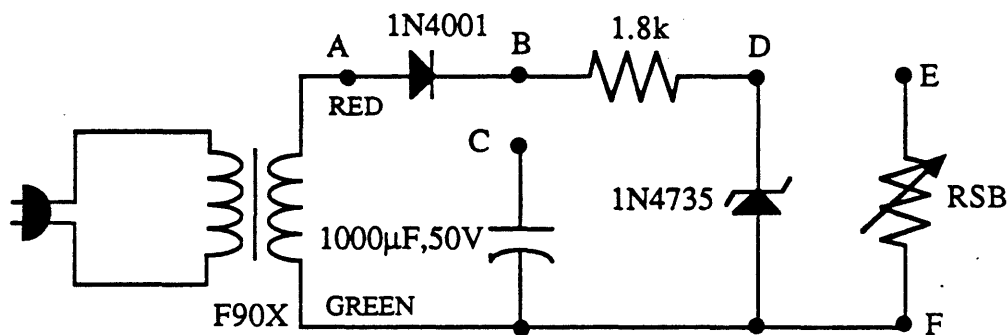

Figure 5.5 Zener diode regulated power supply
- (7) Build the circuit shown in Fig.5.5.
- (8) Connect your scope CH1 input to point B. Connect your scope COM to point F. Measure the waveform at point B and record your results in Table 5.6. Connect your scope CH1 input to point D, measure the waveform at point D and record your results in Table 5.7.
- (9) Connect points B and C.
- (10) Connect your DMM (VKS) input to point B. Connect your DMM COM to point F. Record the DC and AC (RMS) voltages in Table 5.8. Connect your DMM (VKS) input to point D. Record the DC and AC (RMS) voltages in Table 5.8.
- (11) Connect your scope CH1 input to point B. Measure and record the AC voltage at point B in Table 5.9.
- (13) Set the RSB to 3.2k. Connect points D and E.
- (14) Connect your DMM (VKS) input to point D. Connect your DMM COM to point F. Record the DC and AC (RMS) voltages in Table 5.10.
- (15) Repeat step 14 with RSB values of 1.6 K, 1.1 K, 800, 700, 500, 300, and 100 ohms.